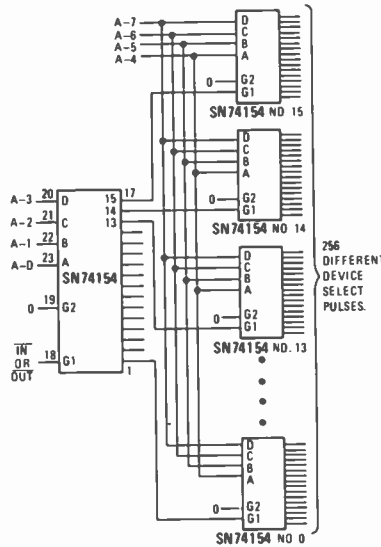
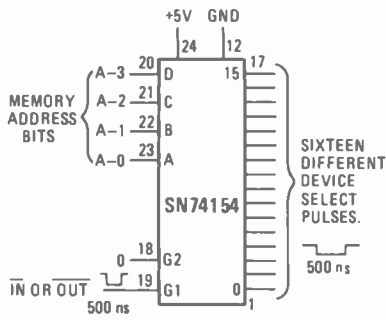

FIG. 1
FIG. 2
The second 8-bit byte, XXXXXXXX₂, in the 16-bit OUT instruction is the *device code* for the output device. A total of 256_{10} different devices can be addressed with such a code. How this is done is shown in full detail in Fig. 1, a device decoding circuit of seventeen SN74154 IC's. Since this is a rather complicated circuit, let us first discuss the simpler decoding circuit of Fig. 2.
This 8-bit device code is connected directly to one or a group of SN74154 IC's, as is shown in Figs. 1 and 2. In Fig. 2, only four of the eight bits are used, whereas in Fig. 1, all
3. These nine output lines (A-0 to $\overline{\text{OUT}}$) are used as inputs to the seventeen SN74154 IC's shown in Fig. 1. This circuit generates a 500-ns negative device-select pulse for device 321_8 . All the remaining 255_{10} outputs from the decoders remain at logic 1 during this time.